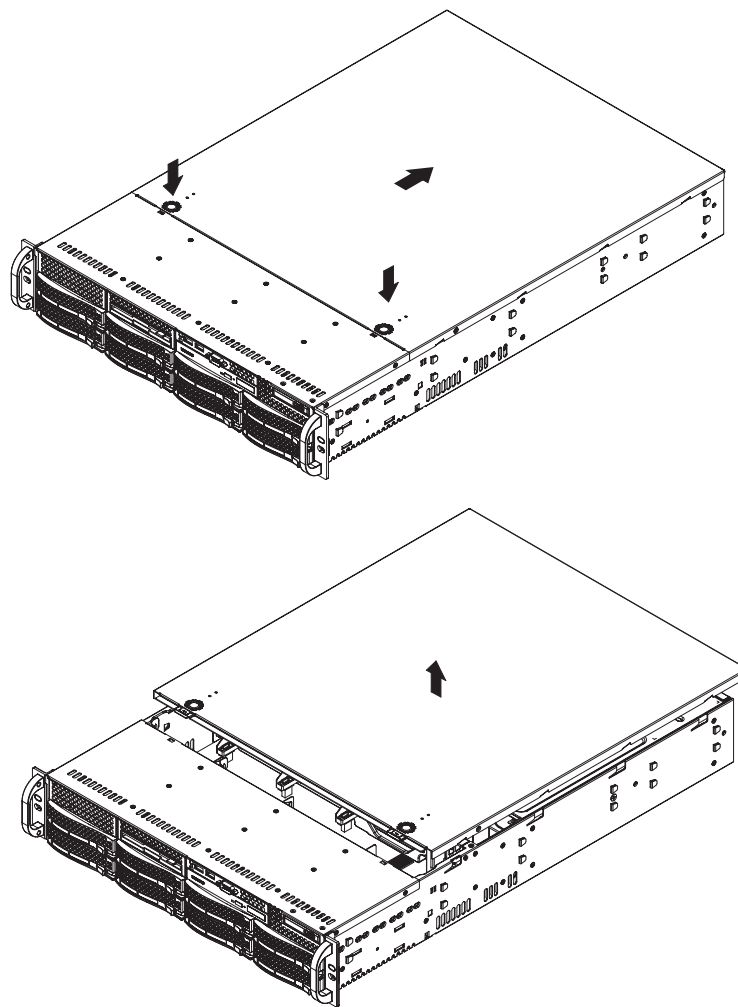

Figure 6-1 System Cooling Fan Access
1. Remove the chassis cover as shown in Figure 6-1 on page 49.